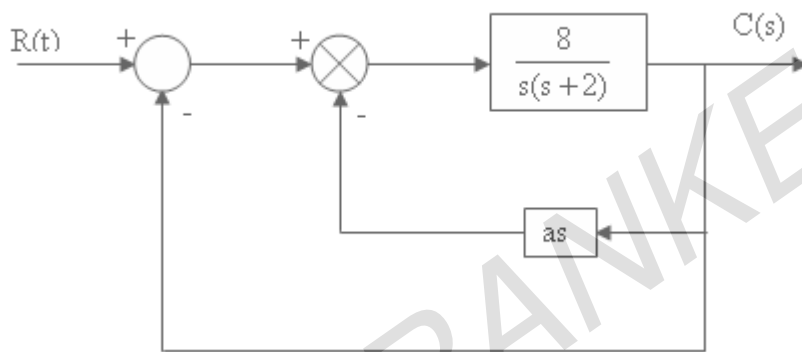

Figure 6:
7. The system shown in Figure 6 is a unity feedback control system with minor feedback loop (output derivative feedback).